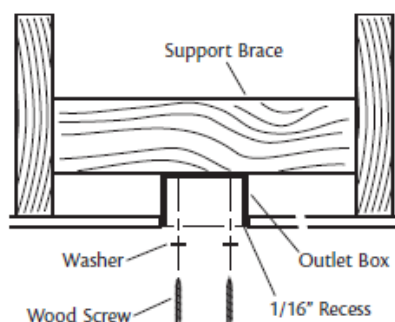

Figure 7 – Installing the Outlet Box
1. Attach a 2" x 4" support brace between two joists. The support brace must allow the bottom of the outlet box to be recessed a minimum of 1/16" into the ceiling. See Figure 7.
4. Attach the outlet box directly to the support brace or joist with two #8 x 1-1/2" wood screws and washers. The bottom of the outlet box must be recessed a minimum of 1/16" into the ceiling as show in Figure 7.